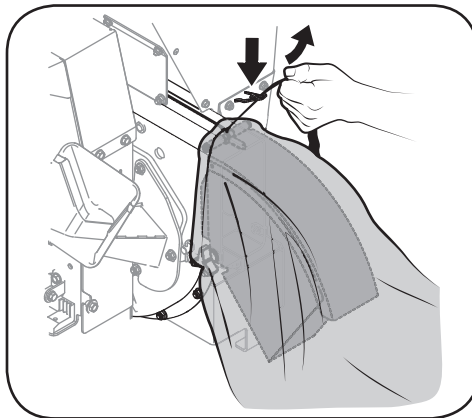

Figure 4-4
2. Squeeze the locking buckle to release the bag's draw-strap before loosening it from the chute deflector. See Figure 4-4.